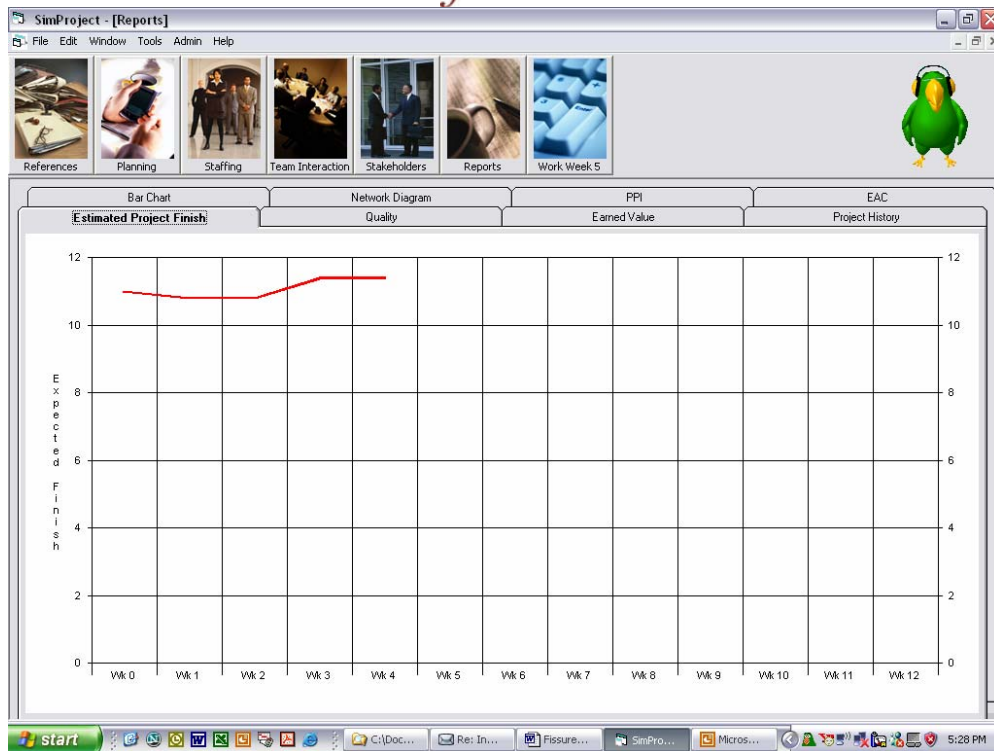

Figure 20 - Reports Screen – Estimated Project Finish (schedule)
- Estimated Project Completion: schedule (Figure 20)